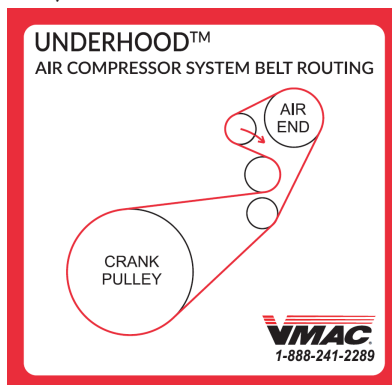

Figure 41 — Belt routing label
- Install the belt routing label in the engine compartment near the hood latch in a visible location (Figure 41).